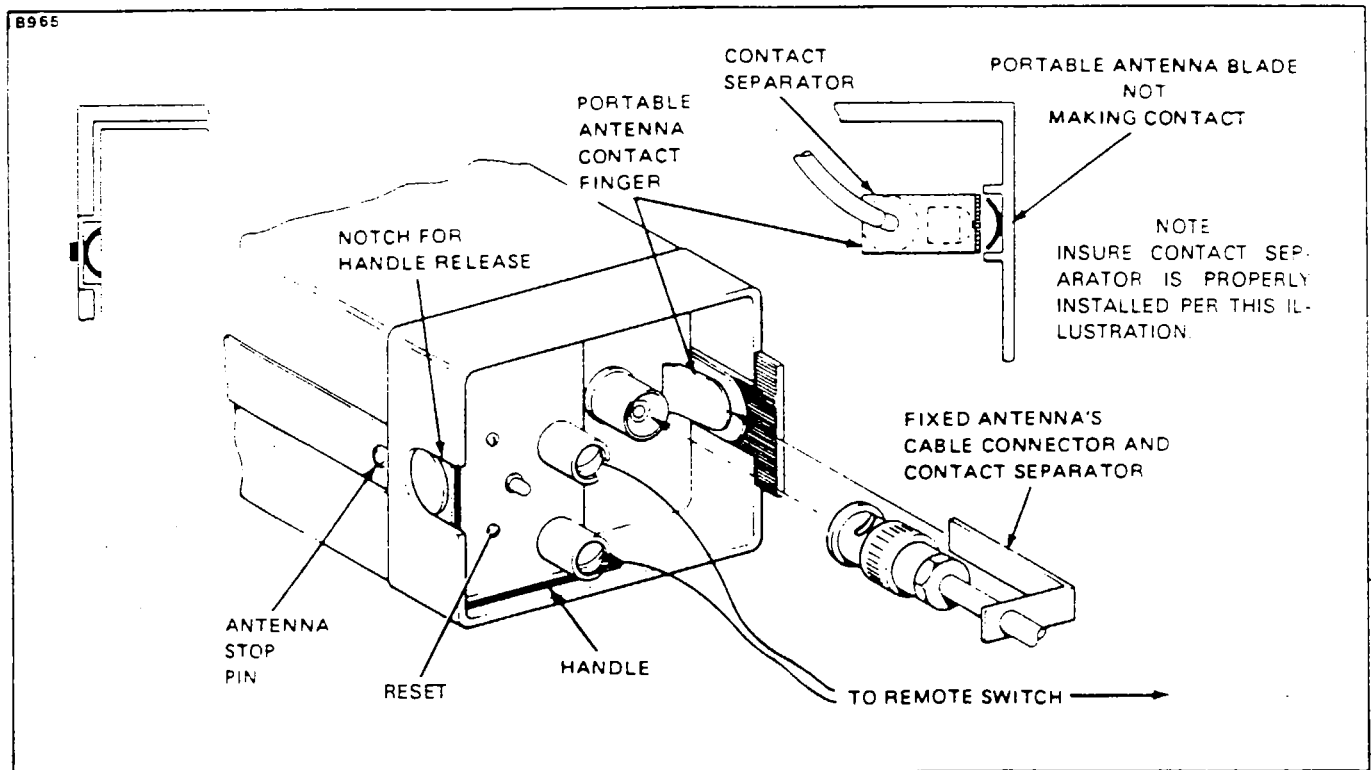

Figure 11-4. ELT Using Fixed Aircraft Antenna (Narco)
- l. Connect the antenna coaxial cable to the ELT and ensure that the contact separator is inserted between the antenna contact finger and portable antenna. (Refer to Figure 11-4.)